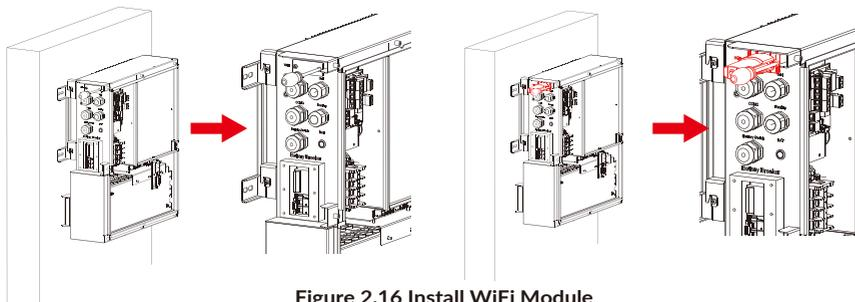

Figure 2.16 Install WiFi Module
Step 12 Install WiFi module, as shown in Figure 2.16.
NOTE: If using WiFi module, open the cover plate of the side WiFi module, insert the WiFi module into the terminal port and then fix it with screws by using T20 double offset ring spanner, as shown in Figure 2.16. The suggested torque is 1.6 N.m±10%.